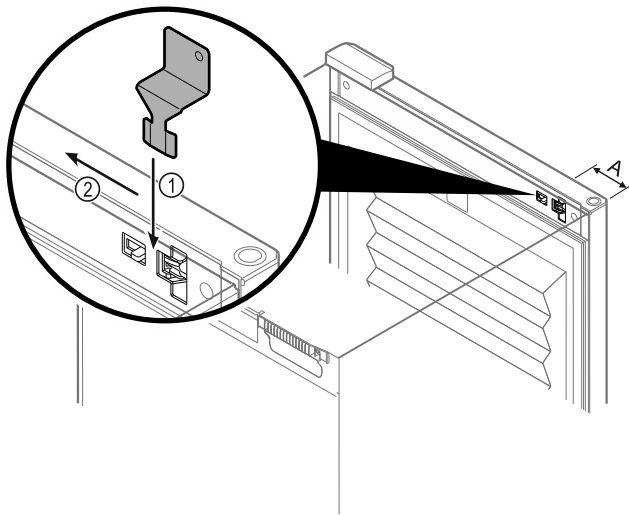

Fig. 95
- ▶ Insert the emergency release key in the specified position Fig. 95 (A) ≈ 100 mm.
- ▶ Insert the emergency release key Fig. 95 (1) between the door and the body of the appliance from above to the end stop.
- ▶ Pull the emergency release key towards the hinge. Fig. 95 (2)